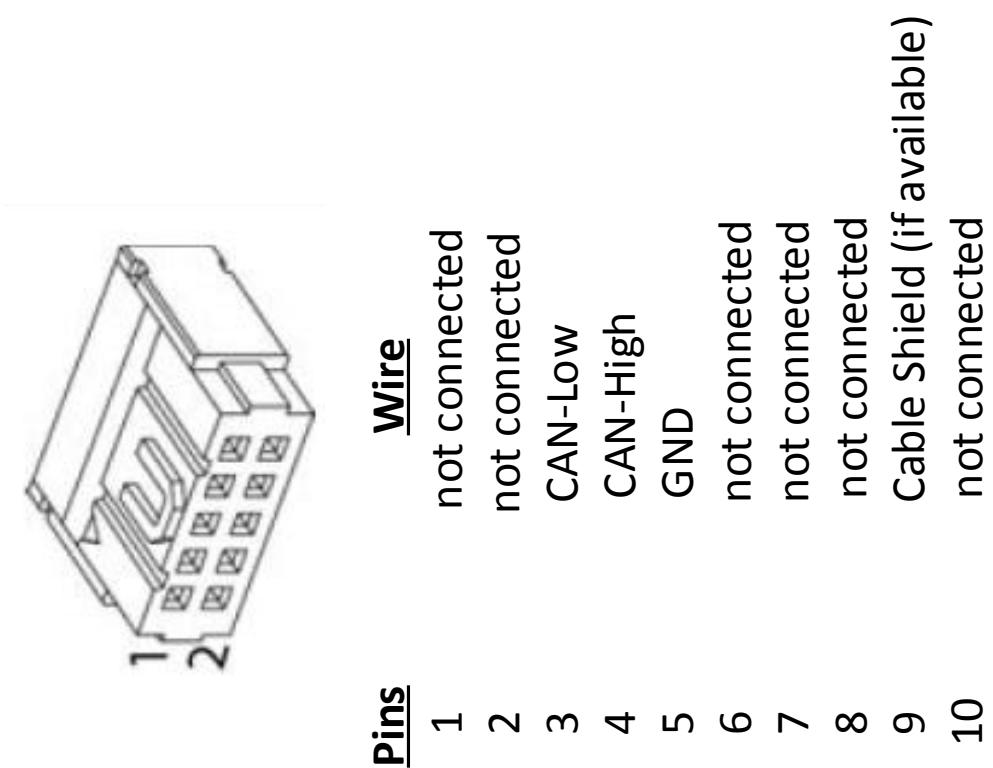

Figure 3.21: 10pinF(CAN): DIN 41651 connector, pitch 2.54 mm, 10 poles, plug strain relief (Female)
- Picture and pinout: see figure 3.21